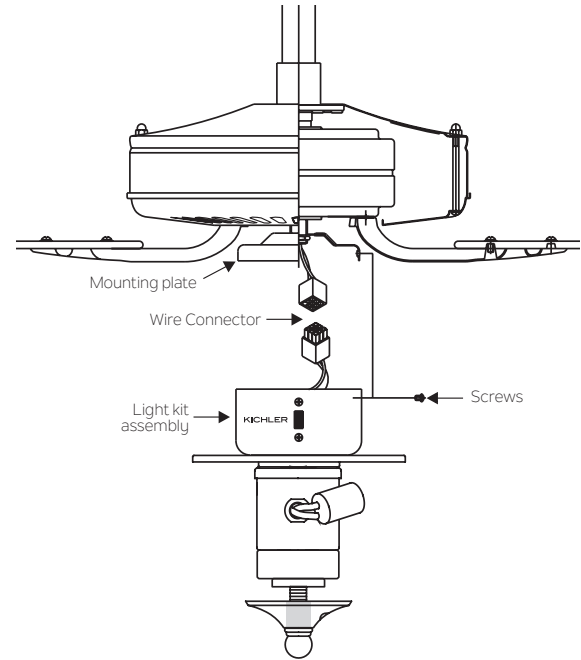

Fig. 2
4. Raise and hold the light kit assembly close to the mounting plate. snap together the wire connection plugs. (Fig. 2)
5. Carefully push all wires back into the switch housing, then install the light kit assembly onto the mounting plate with 3 screws provided. (Fig. 2)